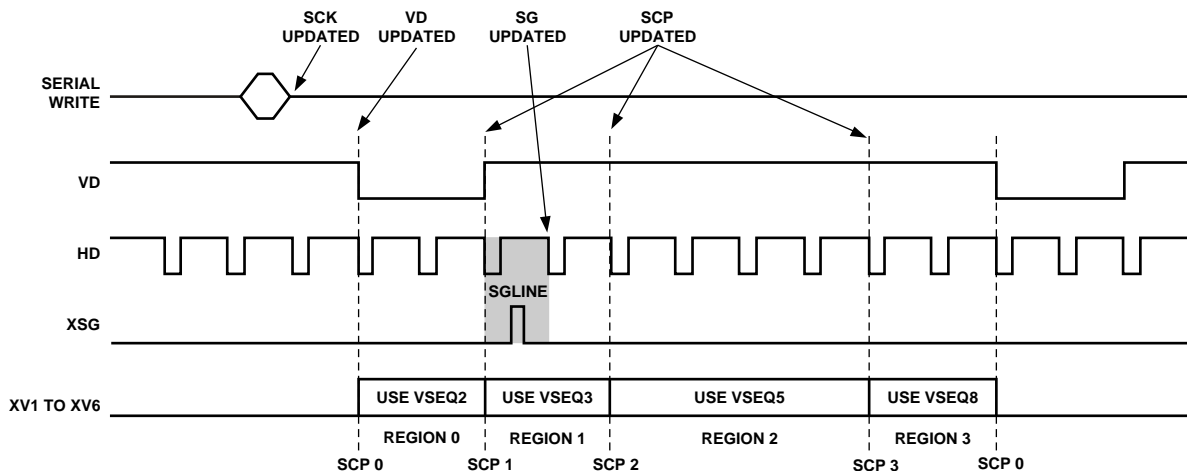

Figure 77. Register Update Locations (See Table 40 for Definitions)
4. **SCP Updated:** In Bank 2 and Bank 3, all of the vertical pattern group and vertical sequence registers (Addr 0x00 through Addr 0xCF, excluding Addr 0x7F) are updated at the next SCP, where they will be used. For example, in Figure 77, this field has selected Region 1 to use Vertical Sequence 3 for the vertical outputs. This means that a write to any of the Vertical Sequence 3 registers, or any of the vertical pattern group registers that are referenced by Vertical Sequence 3, will be updated at SCP1. If multiple writes are done to the same register, the last one done before SCP1 will be the one that is updated. Likewise, register writes to any Vertical Sequence 5 registers will be updated at SCP2, and register writes to any Vertical Sequence 8 registers will be updated at SCP3.